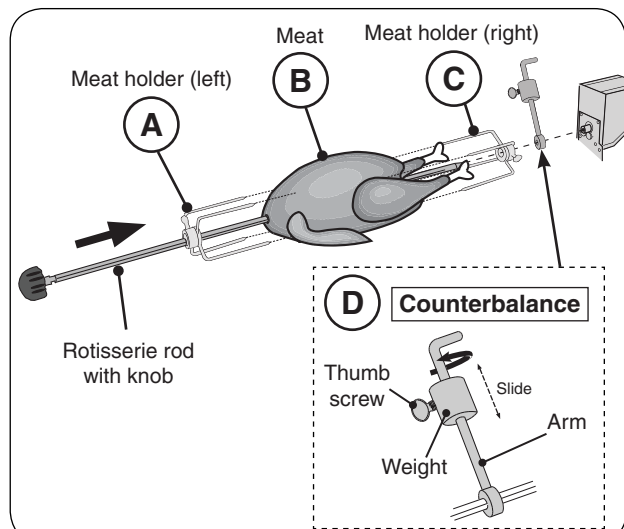

Fig. 31-3 Assemble rotisserie rod for cooking
4. Slide the left meat holder onto the rod and tighten (see Fig. 31-3, A).
5. Then slide meat onto the rod, followed by the right meat holder (see Fig. 31-3, B and C).
8. The counterbalance may then be attached to even weight distribution. Slide the counterbalance onto the rod next to the right meat holder (see Fig. 31-3, D). Loosen the arm and point it upward opposite the heavy side of the meat. Tighten the arm.
9. Slide the counterbalance weight up or down the arm until the rod rotates most evenly then tighten thumb screw (see Fig. 31-3, D).